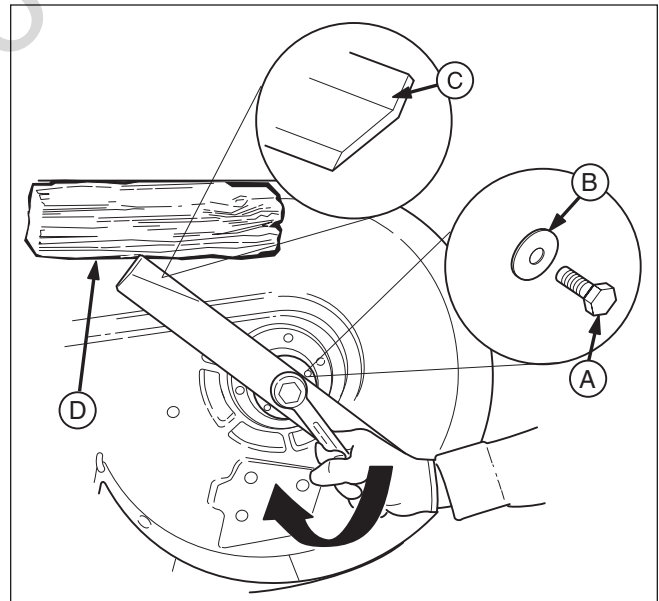

Figure 19. Tightening the Mower Blade for Installation
1. Reinstall each mower blade with the air lifts pointing up towards the mower deck as shown in Figure 19. Secure with the mower blade mounting bolt and flat washer (A & B, Figure 19) and torque to 70 ft. lbs (94 Nm).